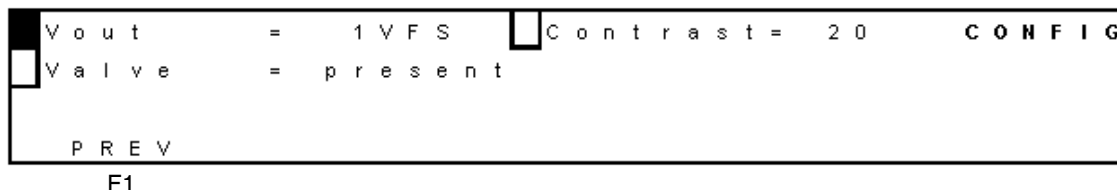

Figure 5-8 Configuration Screen
4. If you want to change the display contrast, select **F1 CONFIG**. The Configuration screen appears (Figure 5-8).